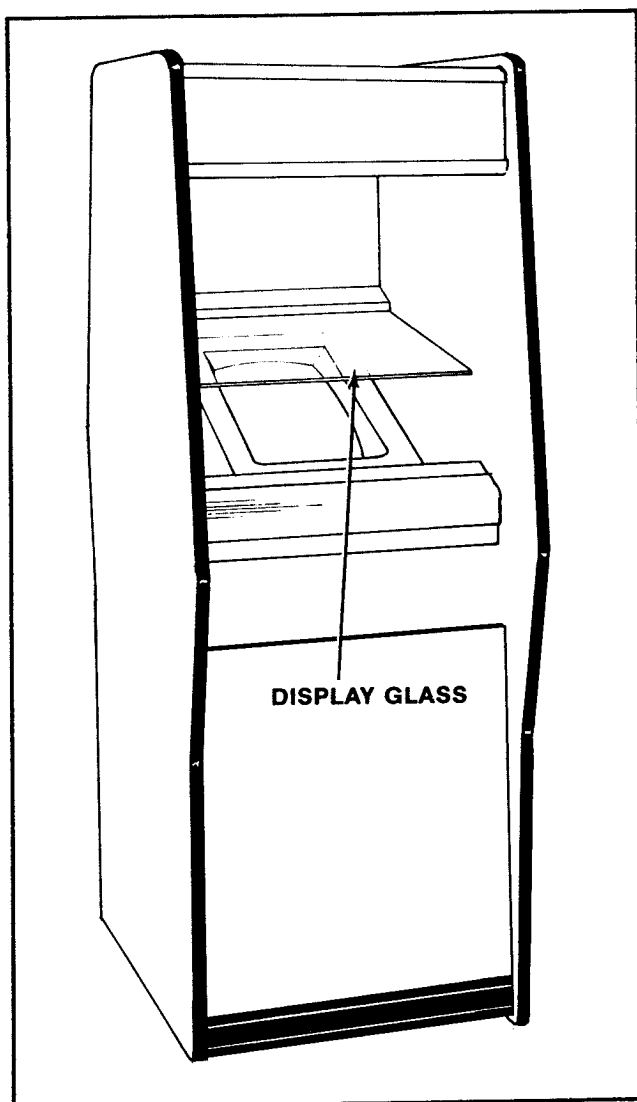

Figure 4-6 Removing Main-Display-Glass & T.V. Bezel — Upright
- ☐ By putting your finger in the hole in the middle of the main-display-glass suport, you can lift it up and out. See Figure 4-6.